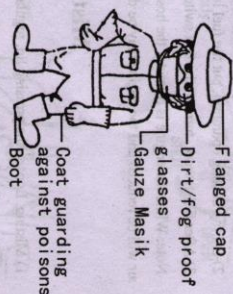

Fig. 13
2. Protective clothing (Fig 13)